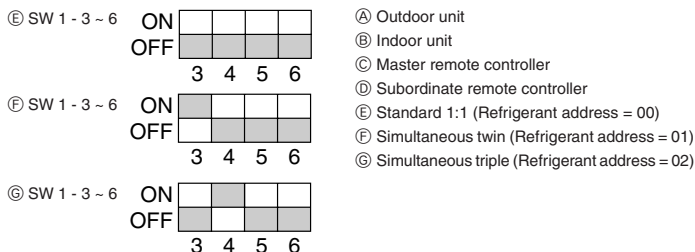

Fig. 10-1
- Because the unit automatically stops in about two to three minutes after the refrigerant collecting operation (LED1 and LED2 are lit), be sure to quickly close the gas stop valve. When LED1 and LED2 are lit and the outdoor unit is stopped, open the liquid stop valve completely, and then repeat step ② after three minutes have passed.
10. System control (Fig. 10-1)